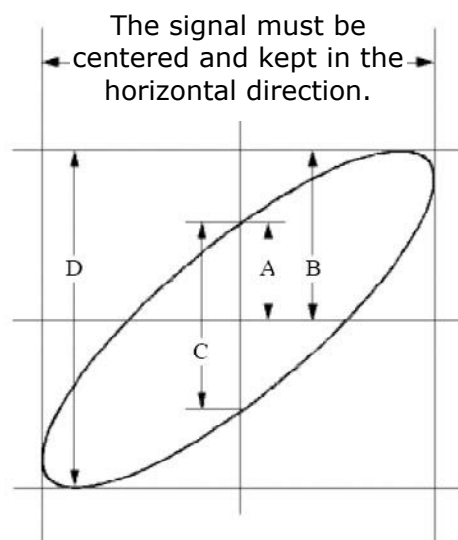

Figure 108. Lissajous Graph.
- 3 Press **DISPLAY** to activate **DISP SET** menu, then F3 to select XY mode. Now the waveform is displayed as **Lissajou's curve**, adjust **VOLTS/DIV** and **VERTICAL POSITION** to get the best possible display, work out the phase shift as in Fig.108.